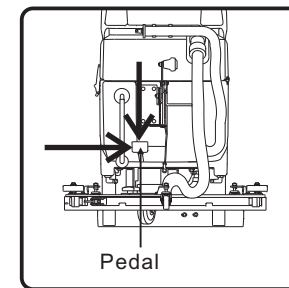

fig.6
2. Step on the pedal rightly to lower the brush(fig.6). After that, switch on the key switch and press the scrubbing/assembling button to assemble the brush(fig.7).